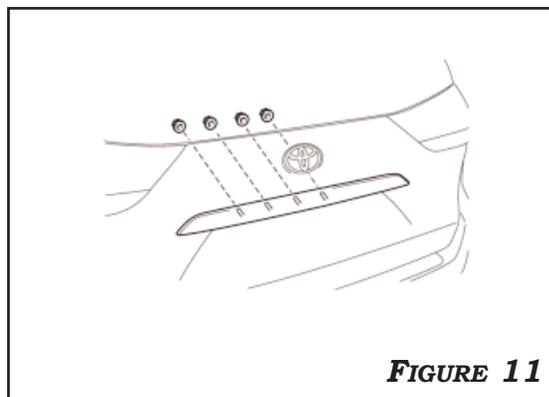

FIGURE 11
11. REMOVE (4) 10MM NUTS, DISCONNECT CONNECTORS, AND DISENGAGE THE CLIPS TO REMOVE THE BACK DOOR OUTSIDE GARNISH SUB-ASSEMBLY. **FIGURE 11**